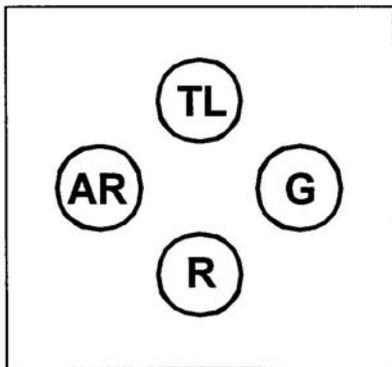

Figure 071-326-0501-3. Fire team diamond
d. Fire team file (figure 071-326-0501-4). When the fire team is not using a wedge or diamond formation, it uses the file. The file—
- (1) Provides maximum control.
- (2) Provides minimum frontage. It is the easiest formation to use in close terrain or vegetation.
- (3) Facilitates speed of movement.
- (4) Is less flexible than the wedge or diamond.
- (5) Provides immediate fires to flanks, but it masks most Soldier's fires to the front and rear.